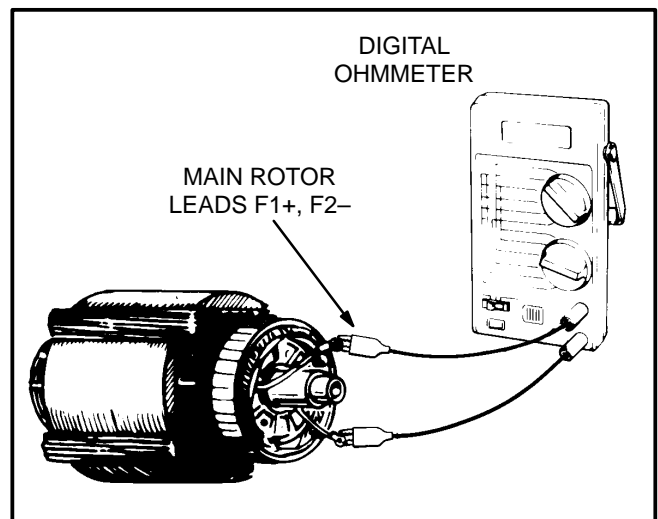

FIGURE 15. TESTING ROTOR FOR AN OPEN CIRCUIT
2. Using ohmmeter, check resistance between F1 and F2 leads, Figure 15.